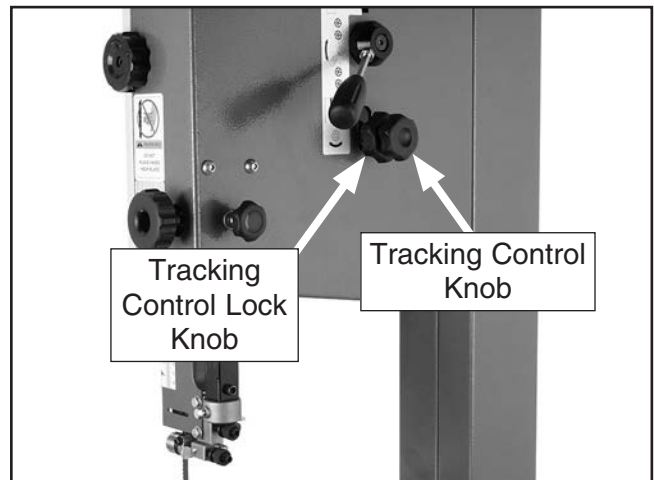

Figure 24. Location of tracking control knob.
6. Loosen the tracking control lock knob (**Figure 24**) so that the tracking control knob will rotate for adjustments.